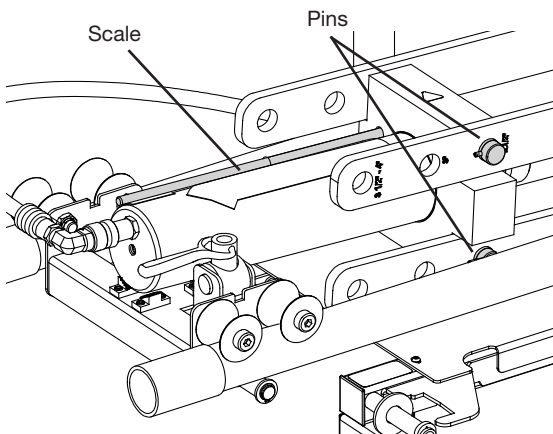

Figure 3
7. Slide the ram in between the connecting forks with its scale facing the saddle/operator side of the cart and secure with pins in the 2-1/2 in. conduit position on the forks. (Fig. 3)